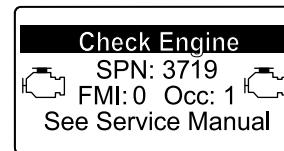

Figure 69
- Engine warning SPN 3719, FMI 0 (Figure 69)